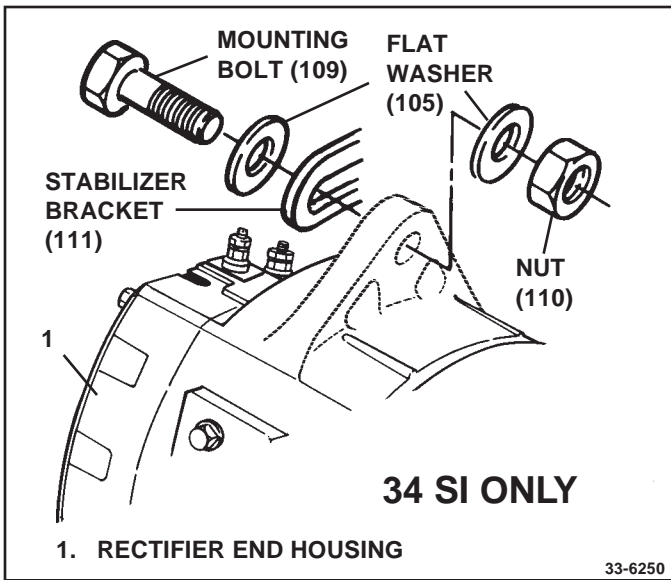

Figure 46. Connecting Stabilizing Bracket
**NOTICE:** Before installing alternator to engine, check mounting bracket (101) and adjustment bracket (104), also stabilizer bracket (111 Fig. 46); if used, to ensure they are not worn or cracked. Make sure they will securely mount alternator to engine with proper hardware.
8. Stabilizer mounting bolt (109) through flat washer (105), stabilizer bracket (111), RE housing stabilizer lug (1), flat washer (105) and thread into nut (110) finger tight. (See Fig. 46)